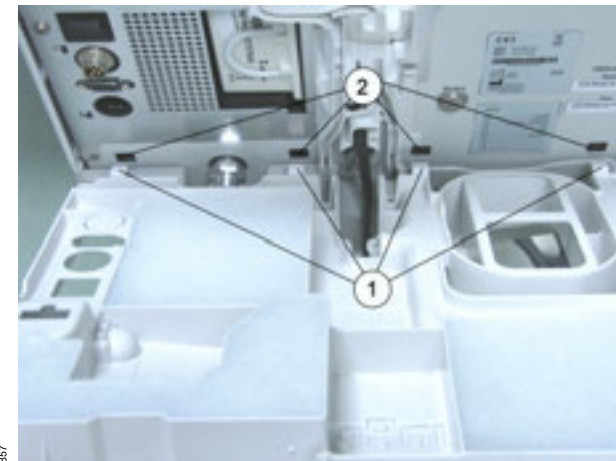

Fig. 39 Detail view of filter cover: Tabs and recesses
- 1 Slot the tabs (Fig. 39/1) of the filter cover into the recesses (Fig. 39/2) in the rear panel, swivel the filter cover upwards and press the catches (Fig. 38/1) of the filter cover into the rear panel until they lock in place.